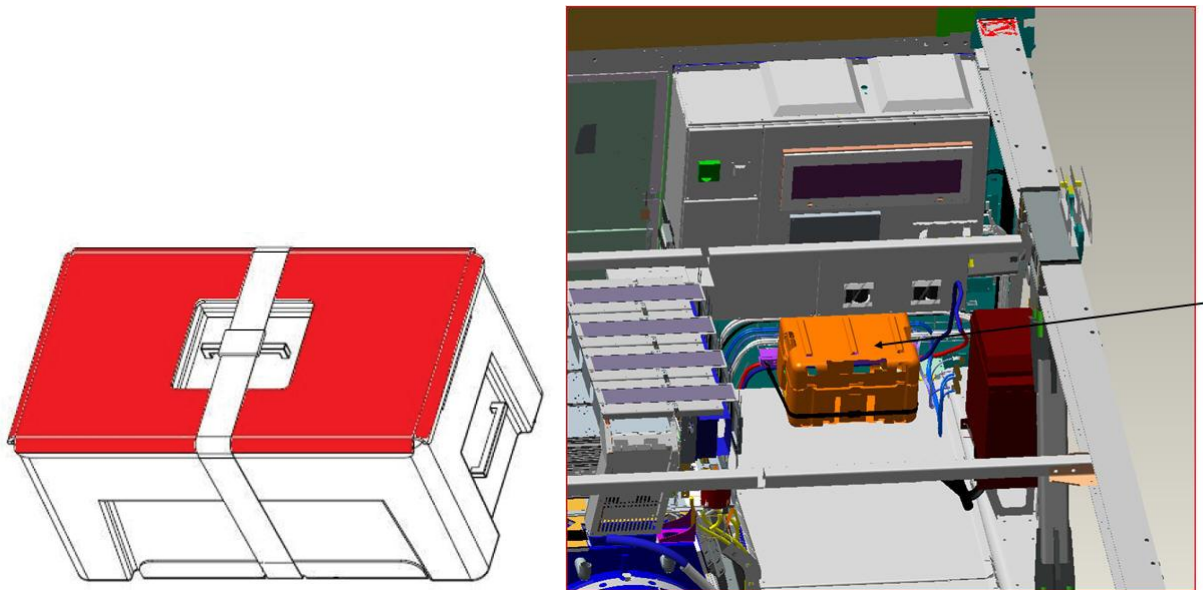

Figure 4-4: Rescue equipment
1. Attach the bracket for the rescue equipment to the rear left side of the nacelle as shown in Figure 4-4, p. 11.
3. Place the cover (marked with red in Figure 4-4, p. 11) over the rescue equipment container, and secure the container and cover with the sling.